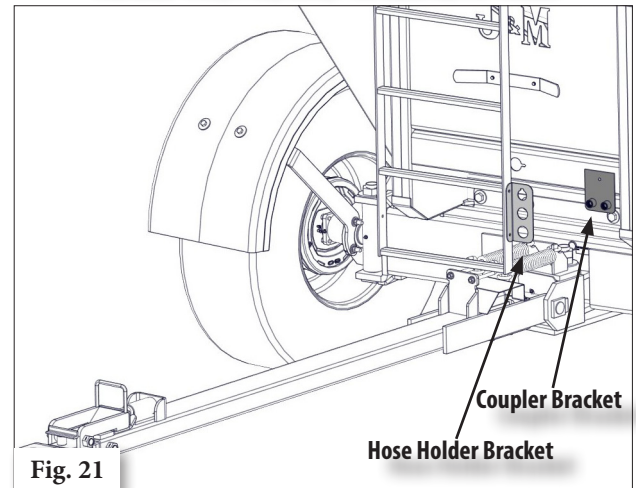

Fig. 21
- Install the Coupler Bracket. Position bracket according to Figures 21 or 22. Hold the Coupler Bracket in place and make a mark where the hole is.
- Position the Hose Holder Bracket Figures 21 or 22. Using the Hose Holder Bracket as a template drill (2) 13/32" holes.
- Sandwich the tractor hydraulic hoses (not included) between the side rail of the ladder and the Hose Holder Bracket using (2) 3/8" x 1 1/2" hex bolts and (2) 3/8" lock nuts.